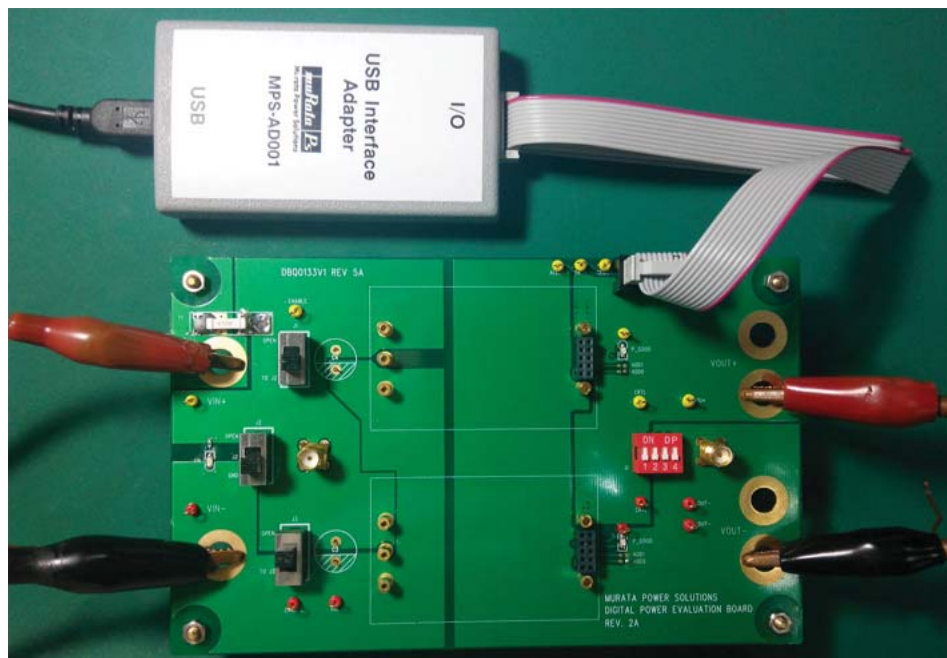

Figure 1. Typical Setup
Users can easily connect the input source and loads to evaluate and configure Murata Power Solution Digital DC-DC quarter-brick or eighth-brick modules for the system's electrical performance that takes after their target application (figure 1). Together with the GUI software, the evaluation board, and USB to PMBus interface makes it possible to access each module from a PC. During initialization, the software scans the PMBus to read which modules are present and list them in its top panel, together with their addresses and major set-up parameters. The evaluation board monitors up to two devices.
- Digital power evaluation board (see figure 1).
- Connect the I2C USB adapter to the evaluation board as shown in figure 1.